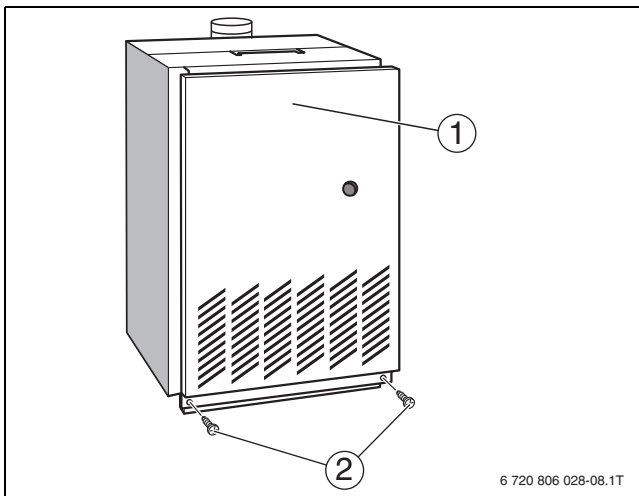

Fig. 2 Installing/removing the front wall of the boiler
- ▶ Unscrew the locking screws (→ Fig. 2 [2]) at the bottom of the front cover [1], lift front cover up, pull outward and remove to the front.
- ▶ Replace front wall of boiler (→ Fig. 2, page 5).
- ▶ Removing the front wall of the boiler (→ Fig. 2, page 5).